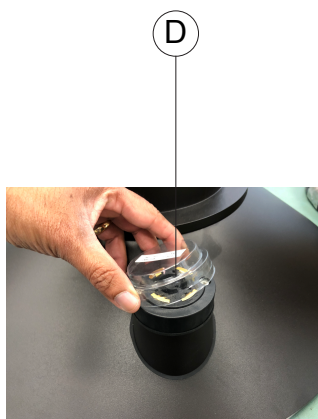

Fig. 3
- 9) For NEMA versions, remove the plastic cap **D** from NEMA cell base as per Fig. 3.
- 15) For NEMA versions, remove the plastic cap **D** from NEMA cell base as per Fig. 3.